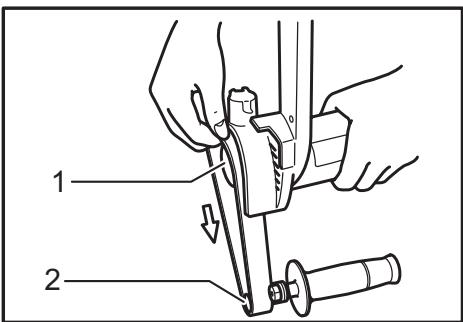

Fig.3
► Fig.3: 1. Rear pulley 2. Front pulley